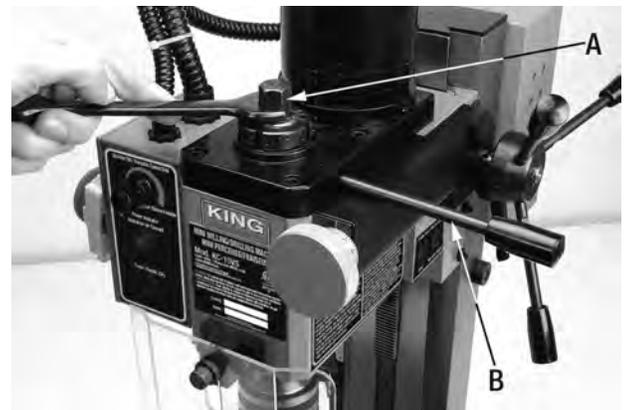

FIGURE 15
3. Hold the cutting tool and collet assembly with one hand, and with the other tighten the drawbar (A) Fig.15 using a wrench as shown. Do not overtighten drawbar, it could damage the spindle taper and it will also be more difficult to remove during removal.
1. Insert lock bar (B) Fig.15 into the small hole on the side of the head as shown. Turn spindle taper by hand until the lock bar slides into the slot of the spindle taper, this will prevent the spindle taper from turning.
2. Loosen the drawbar (A) with a wrench, do not loosen completely.